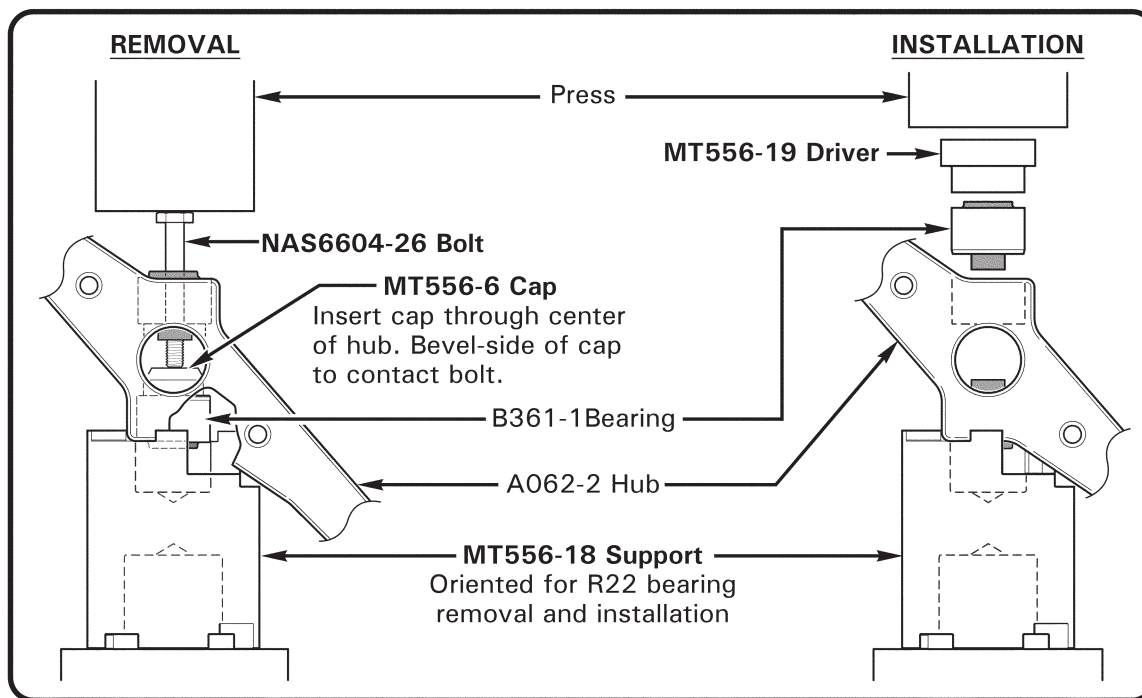

FIGURE 28-8 MT556-17 (ALL-MODEL) TAIL ROTOR HUB BEARING REPLACEMENT TOOL KIT
3. Refer to Figures 28-8 or 28-9, as applicable. Press bearing(s) from hub using MT556-17 or MT556-1 bearing replacement tools as shown.
2. Refer to Figures 28-8 or 28-9, as applicable. Using a cotton or foam tipped applicator, apply light coat of approved primer per § 23-70 to bottom of hub bearing bore. Apply a thin line of primer to center of bearing outside diameter. While primer is wet, press bearing(s) into hub using MT556-17 or MT556-1 bearing replacement tools as shown. Wipe away excess primer.